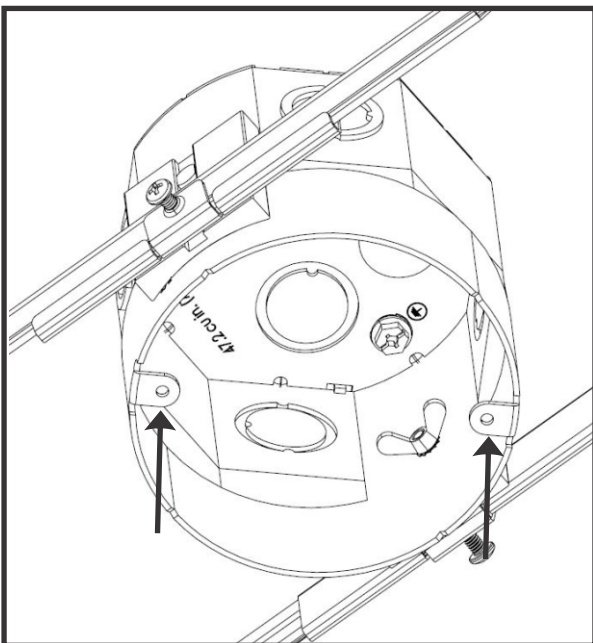
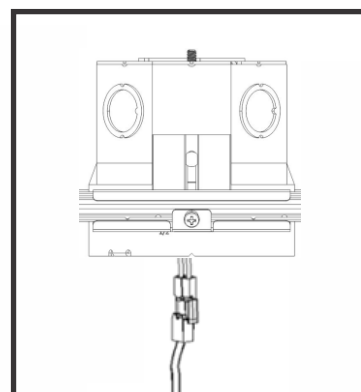

Figure 1
Figure 4
Step 1. Using pliers, bend the snap-off tabs out until they snap off completely from the metallic outlet box (Fig. 1).
Step 5. Install the appropriate connector on the bare wires that will mate with the connector on the LED retrofit (Fig. 4). Connect the ground wire in between the provided ground screw & cup washer shown inside the box in Fig. 1.